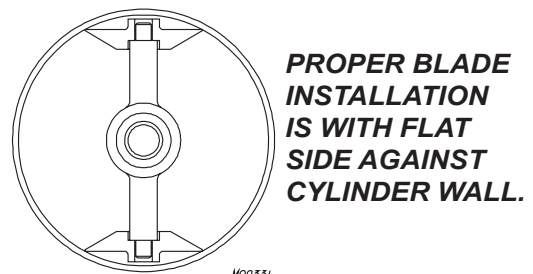

Figure 9-3
4. Place the scraper blades on the beater shafts, making sure the blades are installed properly. Proper blade installation is with flat side against cylinder wall. (See figure 9-3.)